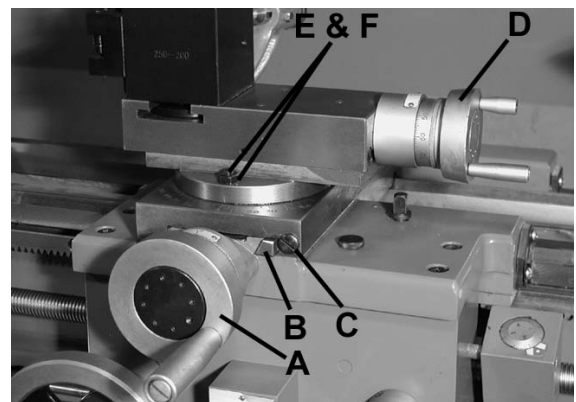

FIGURE 14
The cross slide handwheel (A) Fig.14 is used to feed the cross slide, top slide and tool post with cutting tool towards the workpiece. After time the cross slide gib (B) may become loose or too tight and an adjustment may be necessary. To adjust the gib (B), tighten or loosen the flat head bolt (C) until the cross slide moves freely without play.